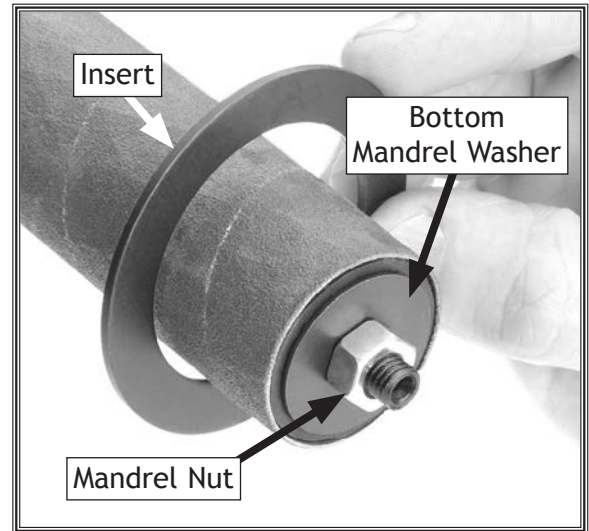

Figure 50. Sanding drum table insert.
8. Install the sanding drum, sandpaper, and top and bottom mandrel washers on the mandrel, then secure with the mandrel nut, as shown in **Figure 50**.
9. Choose the insert that has an opening which is slightly bigger than the sanding drum chosen (see **Figure 50**).